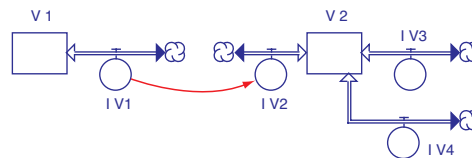

Figure 1.23: Representation of laws of balance in system dynamics diagrams. The thin arrow denotes the interaction rule (action and reaction).
In system dynamics diagrams, laws of balance in their instantaneous forms can be represented graphically by combinations of storage and flow symbols (Fig. 1.23).
6. Formulate interaction rule. In our example, there is a single interaction: The flow out of Tank 1 equals the flow entering Tank 2 (see Fig. 1.23):
37. What happens to the law of interaction formulated in Fig. 1.23 if the two tanks are treated as a single element?